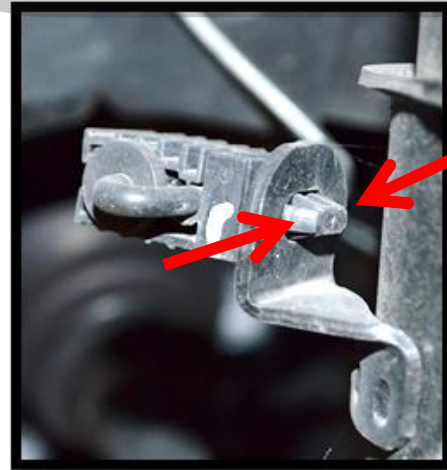

Figure 2b
- b) Remove the ABS sensor attachments from the strut (shown in Figure 2b and 2c). Use a pair of needle nose pliers to carefully squeeze the tabs.
- e) Replace the ABS sensor clips (**Figures 2b and 2c**).
- b) Remove the ABS sensor attachments from the strut (shown in Figure 2b and 2c). Use a pair of needle nose pliers to carefully squeeze the tabs in the direction of the red arrows.
- e) Replace the ABS sensor clips removed in Figures 2b and 2c.